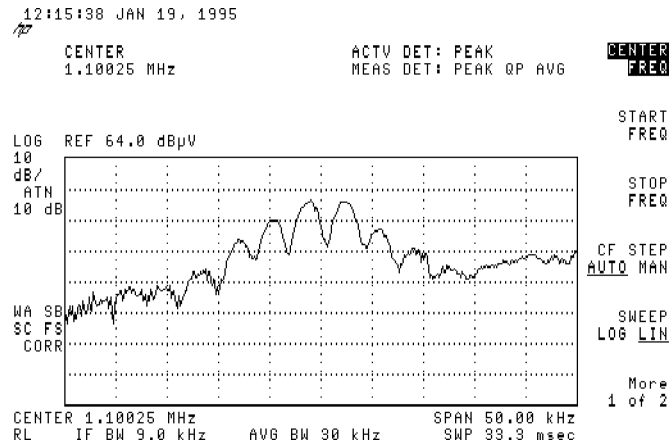

Figure 7-35. Viewing an AM signal.
2. First, center and zoom in on the signal in the frequency domain. Refer to "Decreasing the Frequency Span Using the Marker Track Function." Be sure to turn off the marker track function, since the marker track function must be off for zero span. Refer to Figure 7-35.